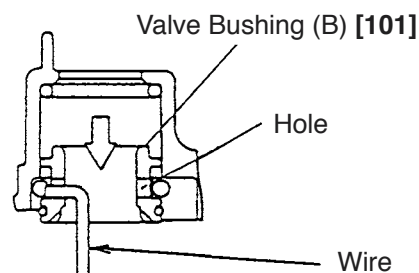

Fig. 22
- ③ Insert a hooked wire into the hole of Valve Bushing (B) [101] as shown in Fig. 22 and take out Valve Bushing (B) [101] being careful not to scratch the inside of Valve Bushing (B) [101].
- Be careful not to scratch Valve Piston (B) [105] and Valve Bushing (B) [101].
- Do not pull out the tip of Plunger (A) [108] with pliers or other tools.